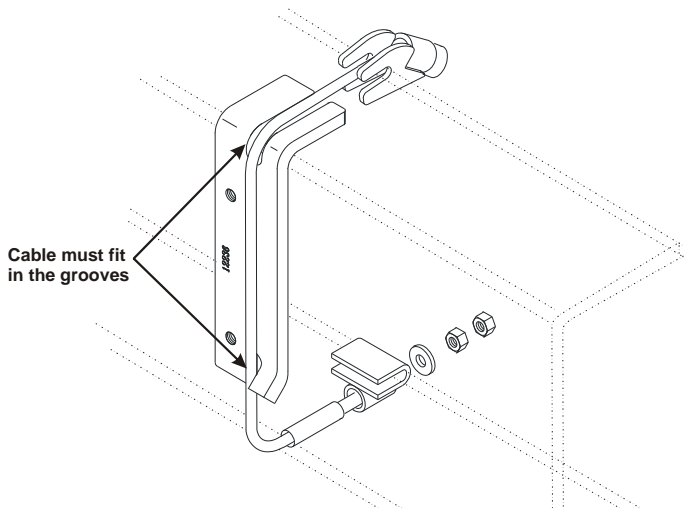

Figure 2.5
- Place the tank strap cables over the frame rail from the inside of the frame, with the tank flat bar strap on the inside of the rail and the tank strap cables hanging over the top outer edge of the frame rail (Figure 2.5).
- Pass each tank strap cable around the tank mount strap, between the strap and the tank. Make sure that the tank strap cable fits between the cable guide and the C-clamp (Figure 2.5).